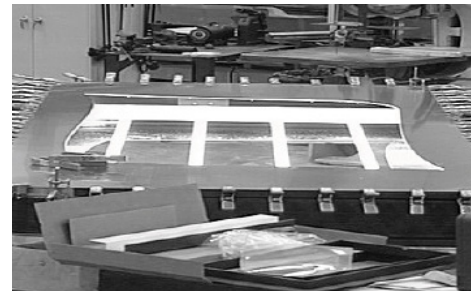

Figure 9. Clamps
- Maintain even pressure across the assembly (refer to Figure 9). Avoid applying pressure in areas that allow the assembly to "bow."